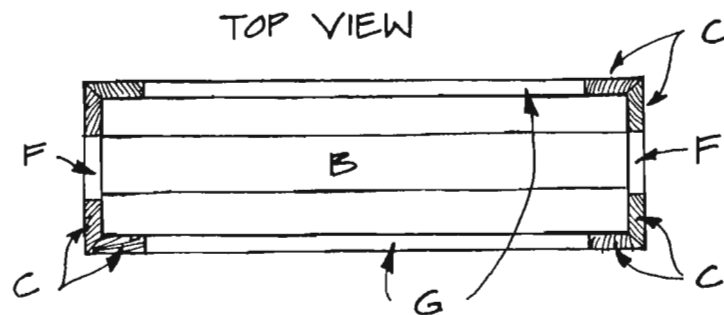

Figure 4
4. Cut two short shelf trim pieces (F) from 1 x 4 pine, each 3-1/2 inches long. Nail and glue them to the short sides of the laminated shelf (B), flush with the top of the shelf (B), as shown in *Figure 4*. Use about three 3-penny finishing nails on each short shelf trim piece (F).
5. Cut two long shelf trim pieces (G) from 1 x 4 pine, each 42 inches long. Nail and glue them to the long sides of the laminated shelf (B), flush with the top of the shelf (B). Space the nails about 6 inches apart.